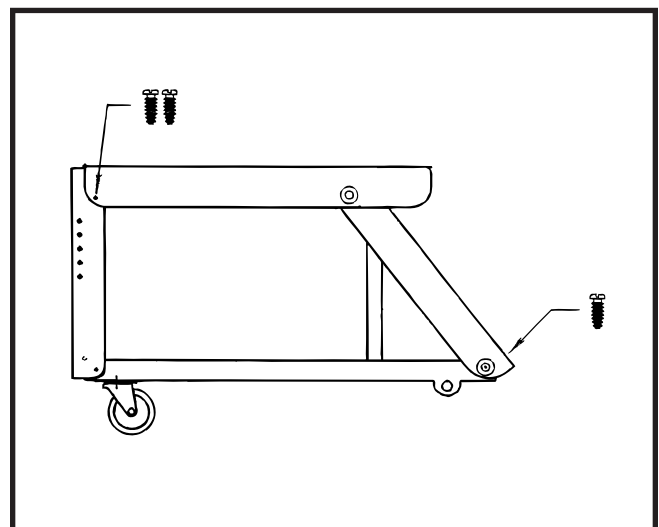

FIGURE 5
STEP 6 (SEE FIGURE 5)
STEP 7 (SEE FIGURE 5)